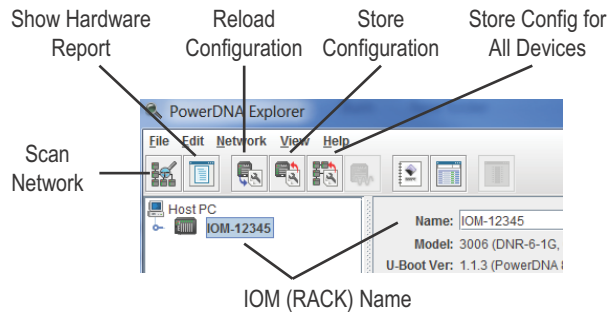

Figure 5-13. PowerDNA Explorer Toolbar Buttons (Config Level)
- **Scan Network, Show Hardware Report, Reload Config, Store Config, Store All Configs** (shown in **Figure 5-13**)